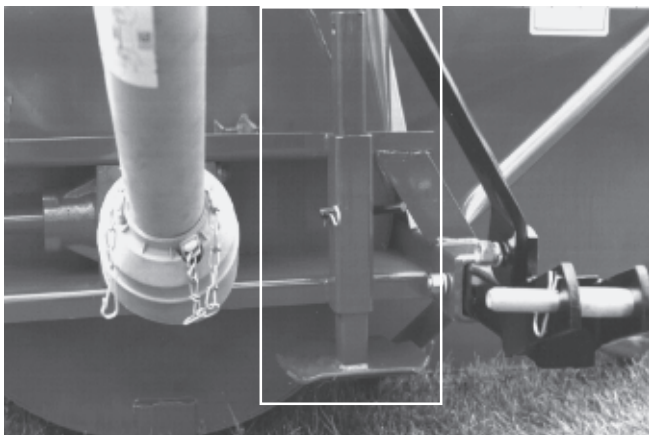

Figure 27
- 6) Following the installation of the Snowblower on the tractor, **do not forget** to lift the storage support (Fig. 27).